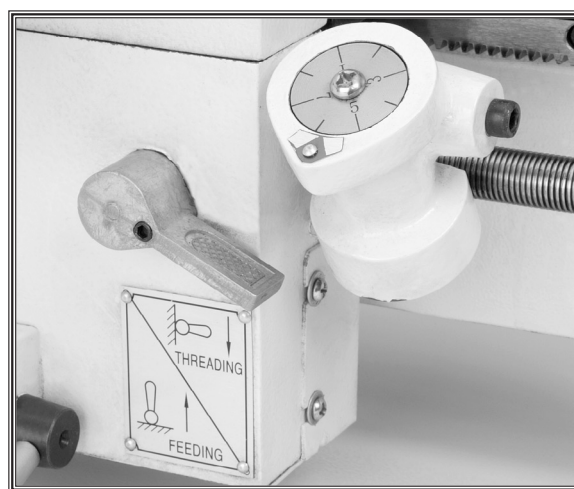

Figure 39. Thread dial and half nut lever.
3. Set your cutting depth to a few thousandths of an inch, engage the half nut lever, and engage the threading dial (Figure 39).